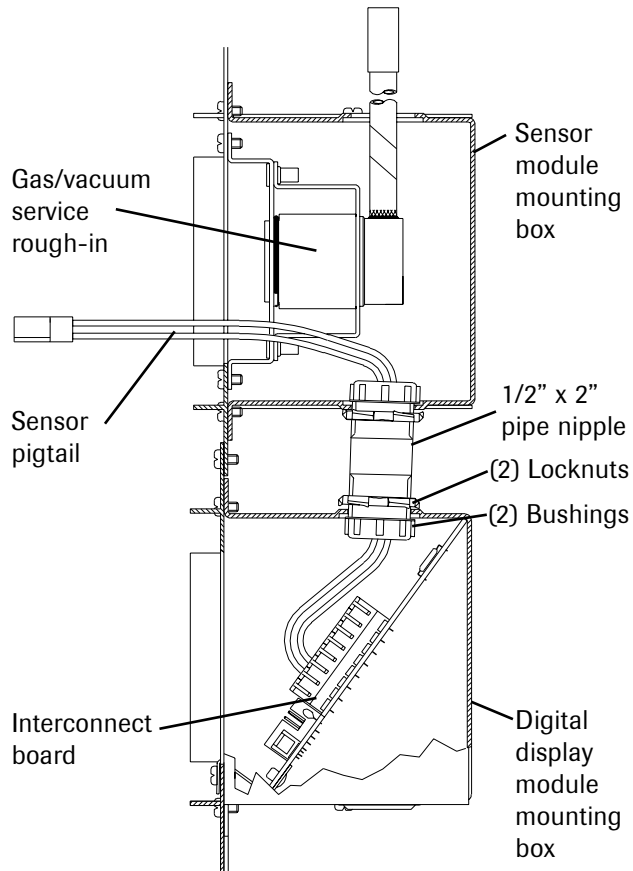

Figure 4. Local Sensor Rough-In Detail
9. Install a 1/2" x 2" pipe nipple (supplied by others) between digital display module mounting boxes and sensor module mounting boxes. Refer to **Figure 4**.
3. Install interconnect boards into alarm mounting boxes using (2) #6-20 x 1/4" screws. Refer to **Figure 4**.
1. Route the sensor pigtail through the pipe nipple. Refer to **Figure 4**.
2. Insert the gas/vacuum service rough-in assembly into the mounting box and secure with (2) #6-20 x 1/4" screws. Refer to **Figure 4**.